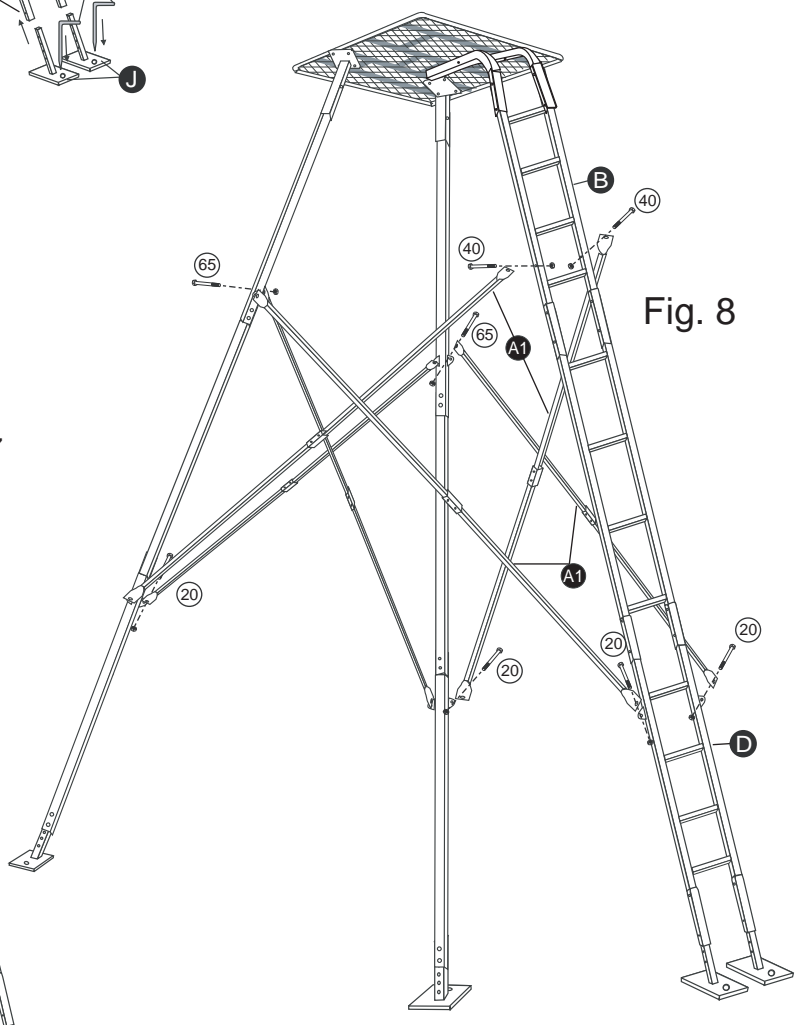

Fig. 8
7. Attach each completed Ladder/Leg brace assemblies to the tabs on leg sections **E** and **G** and ladder sections **B** and **D** using **1-45mm** and **1-20mm bolt** at each attachment point. (See Fig. 8)